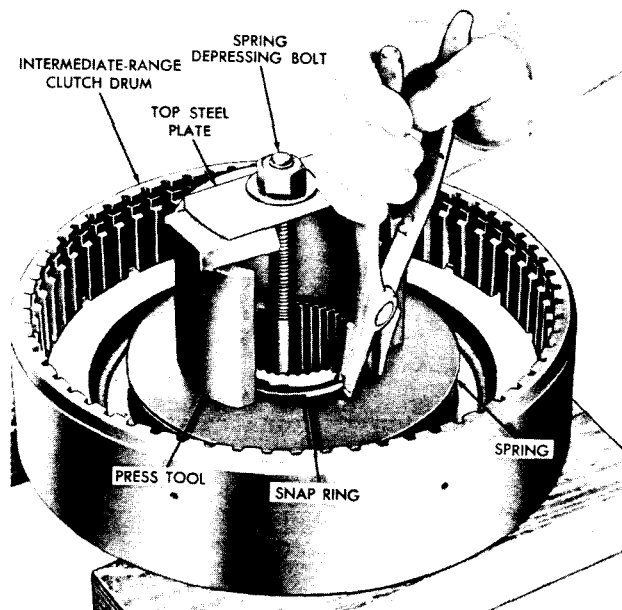
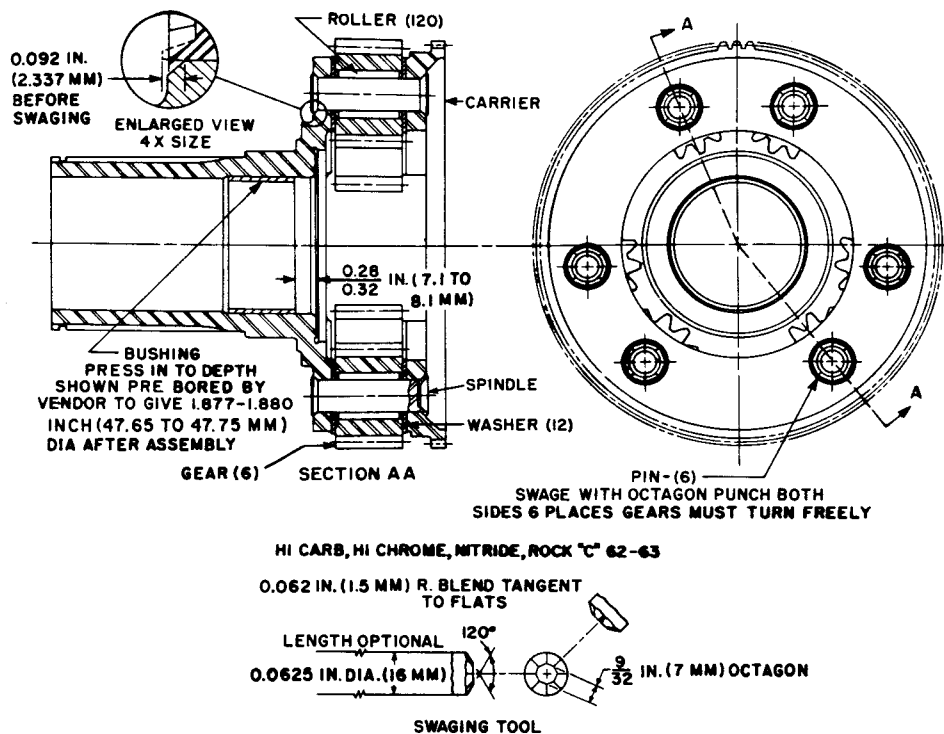

Fig. VI-29. Removing (or installing) return spring snap ring
Fig. VI-31. Forward planetary carrier assembly—cross section
a. Disassembly (item 2, A, foldout 10)
(1) Remove two hook-type seal rings 1, from the hub of clutch drum 4.
(2) Improvise a puller (or use a press) which will depress the piston return spring. Remove the snap ring which retains the spring (fig. VI-29).
cave (cupped) side first, onto the piston (fig. VI-29).
(4) Improvise a puller (or use a press) to depress the clutch spring. Install the snap ring (fig. VI-29).
(5) Install two hook-type seal rings 1 (A, foldout 10) into the grooves on the front hub of clutch drum 4.
a. Disassembly (item 37, A, foldout 9, and refer to fig. VI-31)
(1) Position the carrier assembly, hub upward, on a drill press table.
(2) Using a 1/2-inch (12.7 mm) twist drill, centered accurately, drill the end of each pinion spindle to weaken the staking.
c. Assembly (item 37, A, foldout 9, and refer to fig. VI-31)
(1) If the bushing was removed from the hub of the carrier, install a new bushing. Press it into the carrier to the depth shown in fig. VI-31.
(2) A pinion alining tool as described in 20c(1), above, is required for operations outlined below.
(3) Coat the bore of each pinion with oil-soluble grease.
(4) Holding the alining tool in one hand, install a thrust washer 42 (A, foldout 9) and then a pinion 40 onto the alining tool.
(9) Repeat procedures (4) through (8), above, for the remaining five pinion groups. Align the pinion groups in the carrier by inserting the alining tool into each spindle bore.
(10) Press new spindles through the carrier and pinions until they project 0.092 inch from the bottoms of the countersinks at the front of the carrier (see inset detail of fig. VI-31).
(11) Stake both ends of the spindles with the tool shown in fig. VI-31.